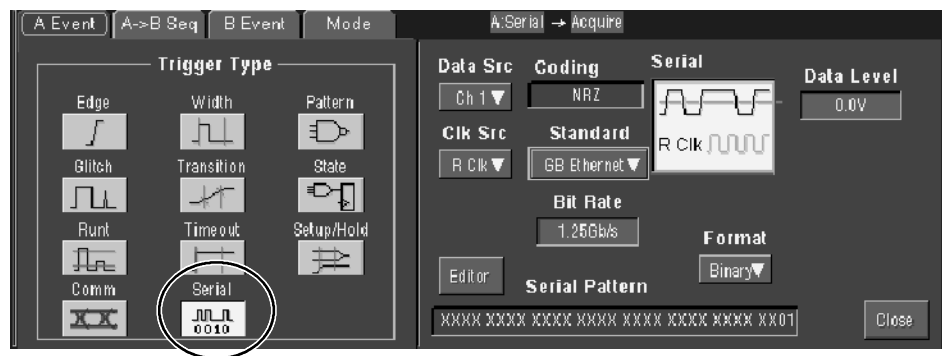

Figure 4: Serial pattern trigger control window
3. Touch **Serial** in the Trigger Type field. The instrument displays the serial pattern trigger functions, as shown in Figure 4.